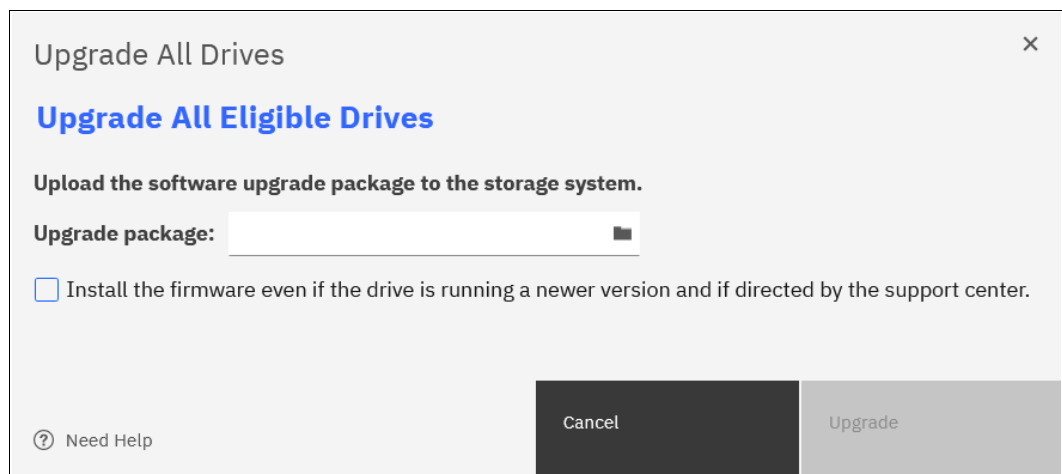

Figure 13-29 Selecting the drive upgrade package
- The Upgrade All Drives window opens, as shown in Figure 13-29, in which you click the small folder at the right side of the **Upgrade package** drop-down menu to go to where you saved the downloaded file in step 1 on page 822. Click **Upgrade** to upload the firmware package and begin upgrading any drives that are earlier. Do *not* select the option to install firmware, even if the drive is running a newer level. Do that only under guidance from IBM Support.